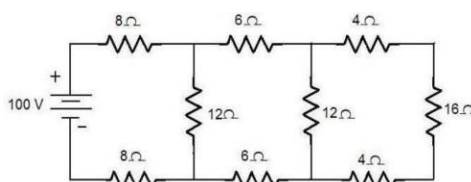

Fig.2
10. For the circuit shown in fig.2 Calculate, a) equivalent resistance between the supply terminals b) Current supplied by the source c) Power consumed by the 16 ohm resistor.